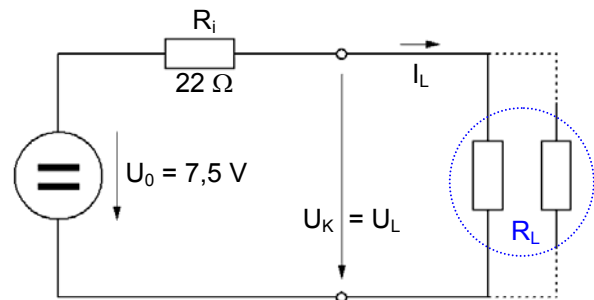

Fig. 9.2.1: Voltage source with consumer
Since the voltage sources on the Electronic Circuits Board all incorporate voltage stabilisation ( $R_i = 0 \Omega$ ), an internal resistance of  $R_i = 22 \Omega$  will be simulated by an external resistor (Fig. 9.2.1). The load  $R_L$  is formed with individual resistors, in both a series and parallel circuit (Fig. 9.2.1 and Table 9.2.2).
- Have the following values of resistor to hand:  $10 \Omega$ ,  $2 \times 22 \Omega$ ,  $33 \Omega$ ,  $100 \Omega$ ,  $220 \Omega$ . Assemble the circuit in Fig. 9.2.1 on the Electronic Circuits Board.